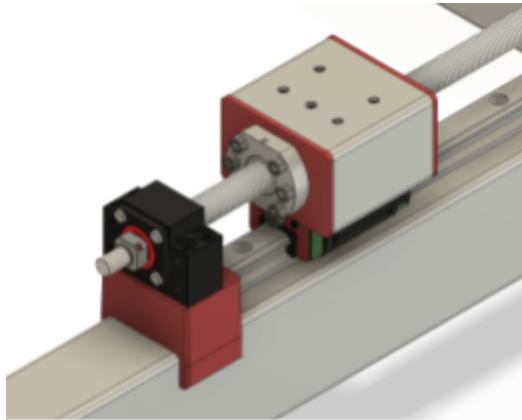

Figure 8.14
11. Attach the ball screw nut to the Y-Axis roller assembly using M5x95mm bolts passing the bolts all the way through both printed plates and M5 nuts on the other side as shown in Figure 8.14 and 8.15. Only screw these finger tight as they will need to be removed again later to install the endstop wire.